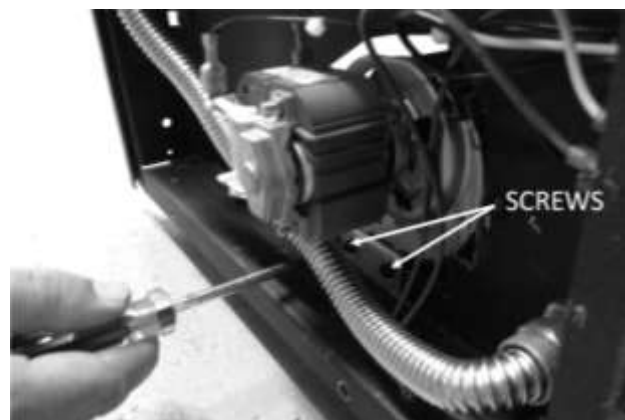

Figure 22: Fan Instal/Removal
2. Insert both screws into the fan access panel to attach the fan to the unit, as in Figure 22.
3. Remove the two (2) screws from the panel as shown in Figure 22 and pull the fan out of unit. You will have to disconnect the wires from the fan before you can remove it completely.